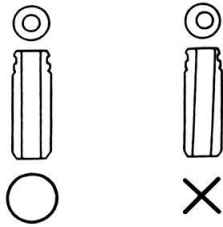

Figure 4-23: Valve Guide, Good (left) Bad (right)
- See Figure 4-23. Verify the valve guide bore is straight, round, and centered in the guide.